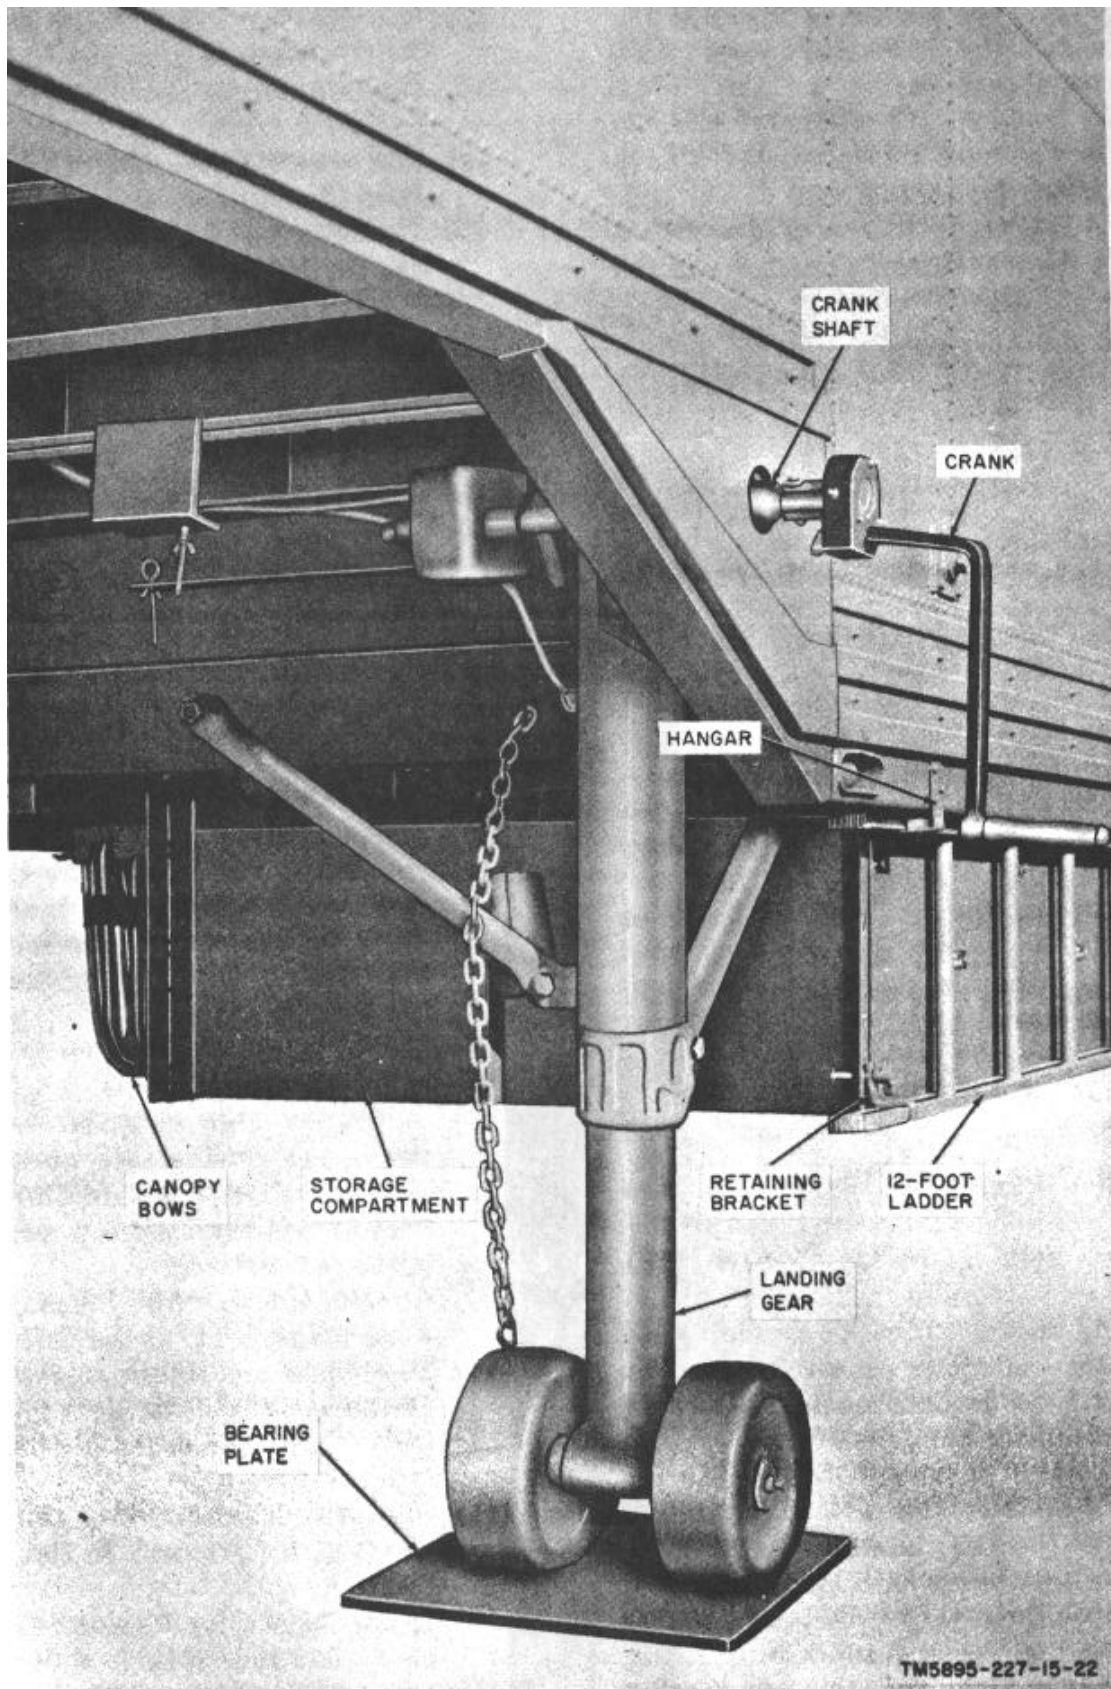

Figure 27. Semitrailer, Van, Electronic Equipment V-189/MSC-25, landing gear and external storage facilities.
- (3) Loosen the fasteners that secure the bearing plates (fig. 27) to the underside of the van; place a bearing plate in position below each landing gear.
- (4) Unhook the cranks from their hangars on the underside of the van.